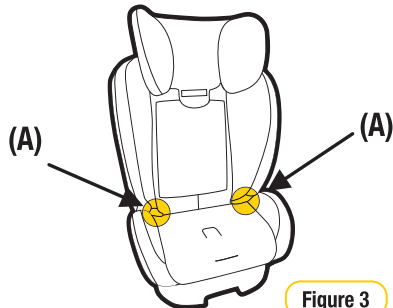

Figure 3
Step 3: Does the sash (shoulder) belt sit across the middle of the shoulder, not on the neck or out near the arm? (refer Figure 3).
Step 2: Disengage shoulder straps from spreader plate as shown on pages 20 & 38. (To change the shoulder slot height, steps 1 to 5). Remove shoulder pads & buckle pads and store in a safe place for keeping. Place the shoulder straps behind the cover, thread through the backrest shoulder slots and reconnect to the metal spreader plate. Tightening the harness with harness adjuster strap located at the front of the seat. Place the two buckle tongues in the recess in the plastic base at point (A) in Figure 3.